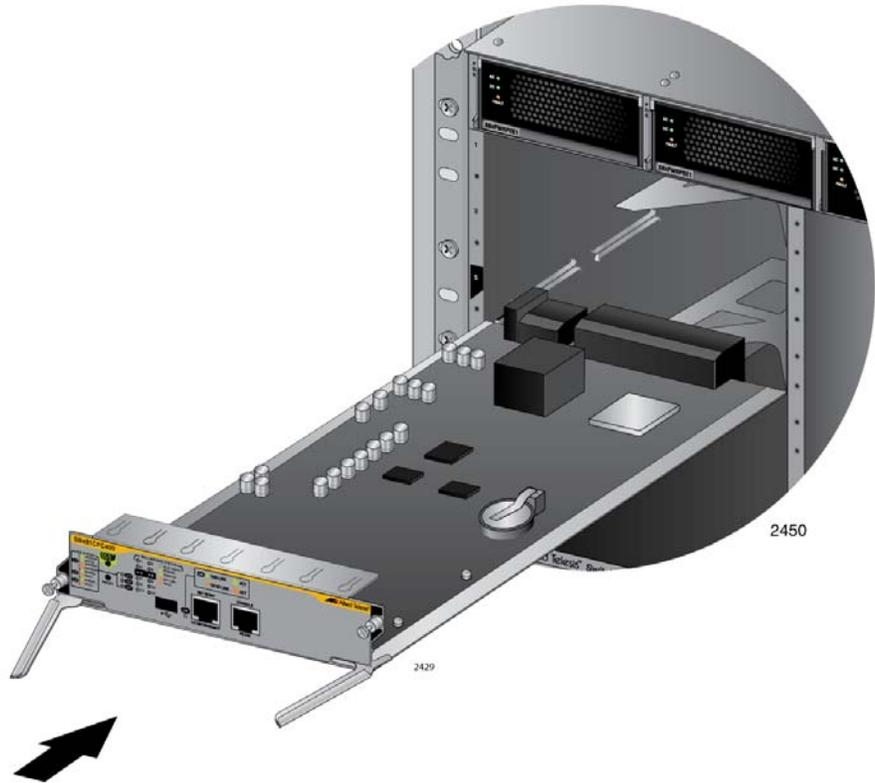

Figure 70. Aligning the AT-SBx81CF400 Card in the Chassis Slot
6. Align the edges of the AT-SBx81CF400 Controller Fabric Card with the internal chassis card guides in slot 5 or 6 of the AT-SBx8112 Chassis. Figure 70 on page 135 shows the AT-SBx81CF400 Card aligned in slot 5.